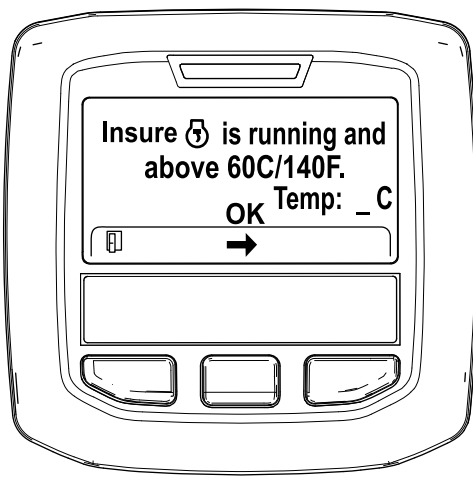

Figure 46
5. If the coolant temperature is below 60°C (140°F) the "Insure  is running and above 60C/140F" message displays. (Figure 46).